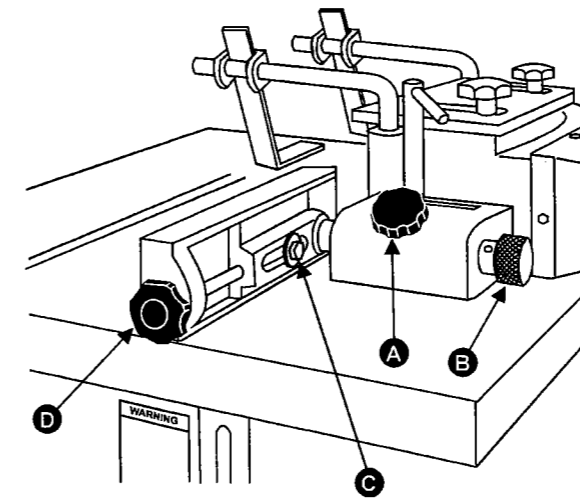

FIGURE 13
To move the fence forward or back, loosen the lock knob (A), Figure 13, and turn adjuster knob (B) to move the fence to the desired position. Tighten the lock knob to lock the fence in position.